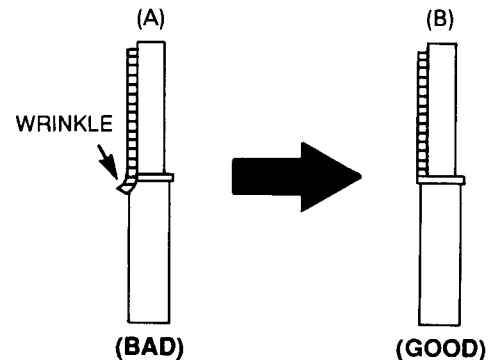

Fig. 6 Tape Guide Check
2. Confirm that there is no curl or wrinkle at the lower flange of tape guide as shown in Fig. 6 (B).
3. If a curl or wrinkle of the tape has occurred, slightly turn the screw (C) tilt adjust on the A/C H'd ass'y clockwise until it disappears as shown in Fig. 6 (B).